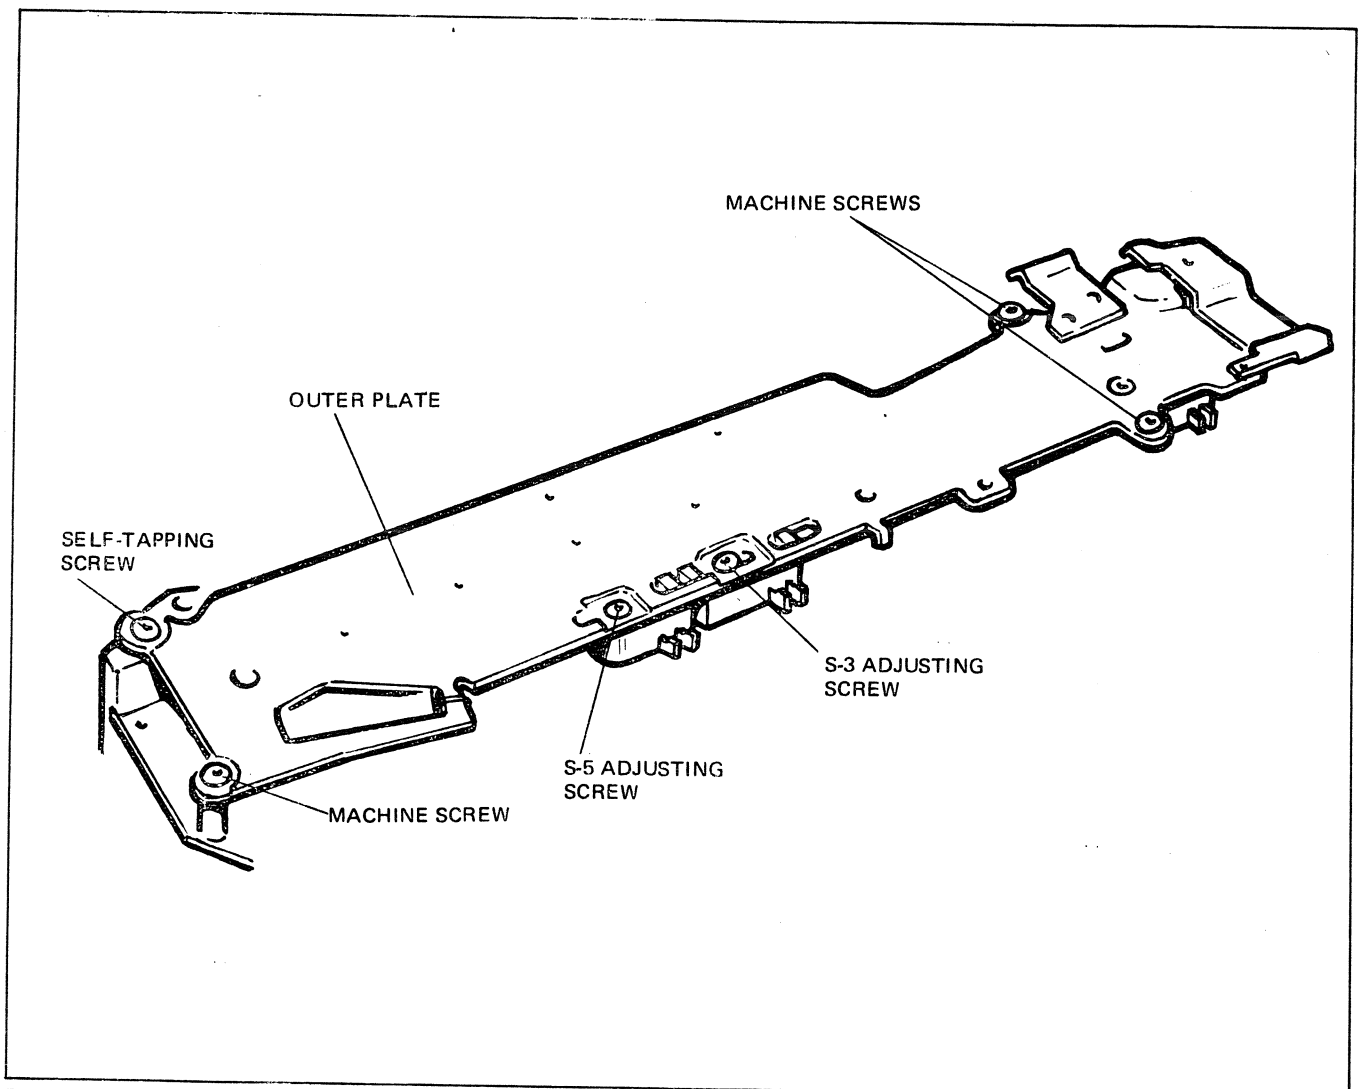

FIGURE 4-38 OUTER PLATE MOUNTING SCREWS
12. Refer to Figure 4-38. Remove the gear-train-assembly mounting screws. Note that three are machine screws but the fourth is a self-tapping screw. Note its location for reference.
33. Refer to Figure 4-38. Install the three machine screws and the self-tapping screw to secure the gear-train assembly.